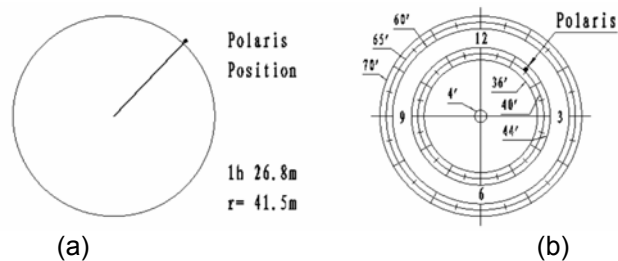

Figure 15
- (5) Press the **MENU** button, then select “**Align**” and “**Pole Star Position**” to display the Pole Star Position on the LCD screen. Shown in **Figure 15(a)** is Polaris position in northern hemisphere. For example, May 30, 2010, 20:00:00 in Boston, US (alt N42°30'32” and long W71°08'50”), 300 min behind UT, the Polaris Position is 1h26.8m and 41.5m.
- (6) Follow **Polar Axis Adjustment** procedure to adjust the mount in altitude and azimuth directions and put the Polaris in the same position on the Polar Scope Dial as indicated on the HC LCD, as shown in **Figure 15 (b)**.